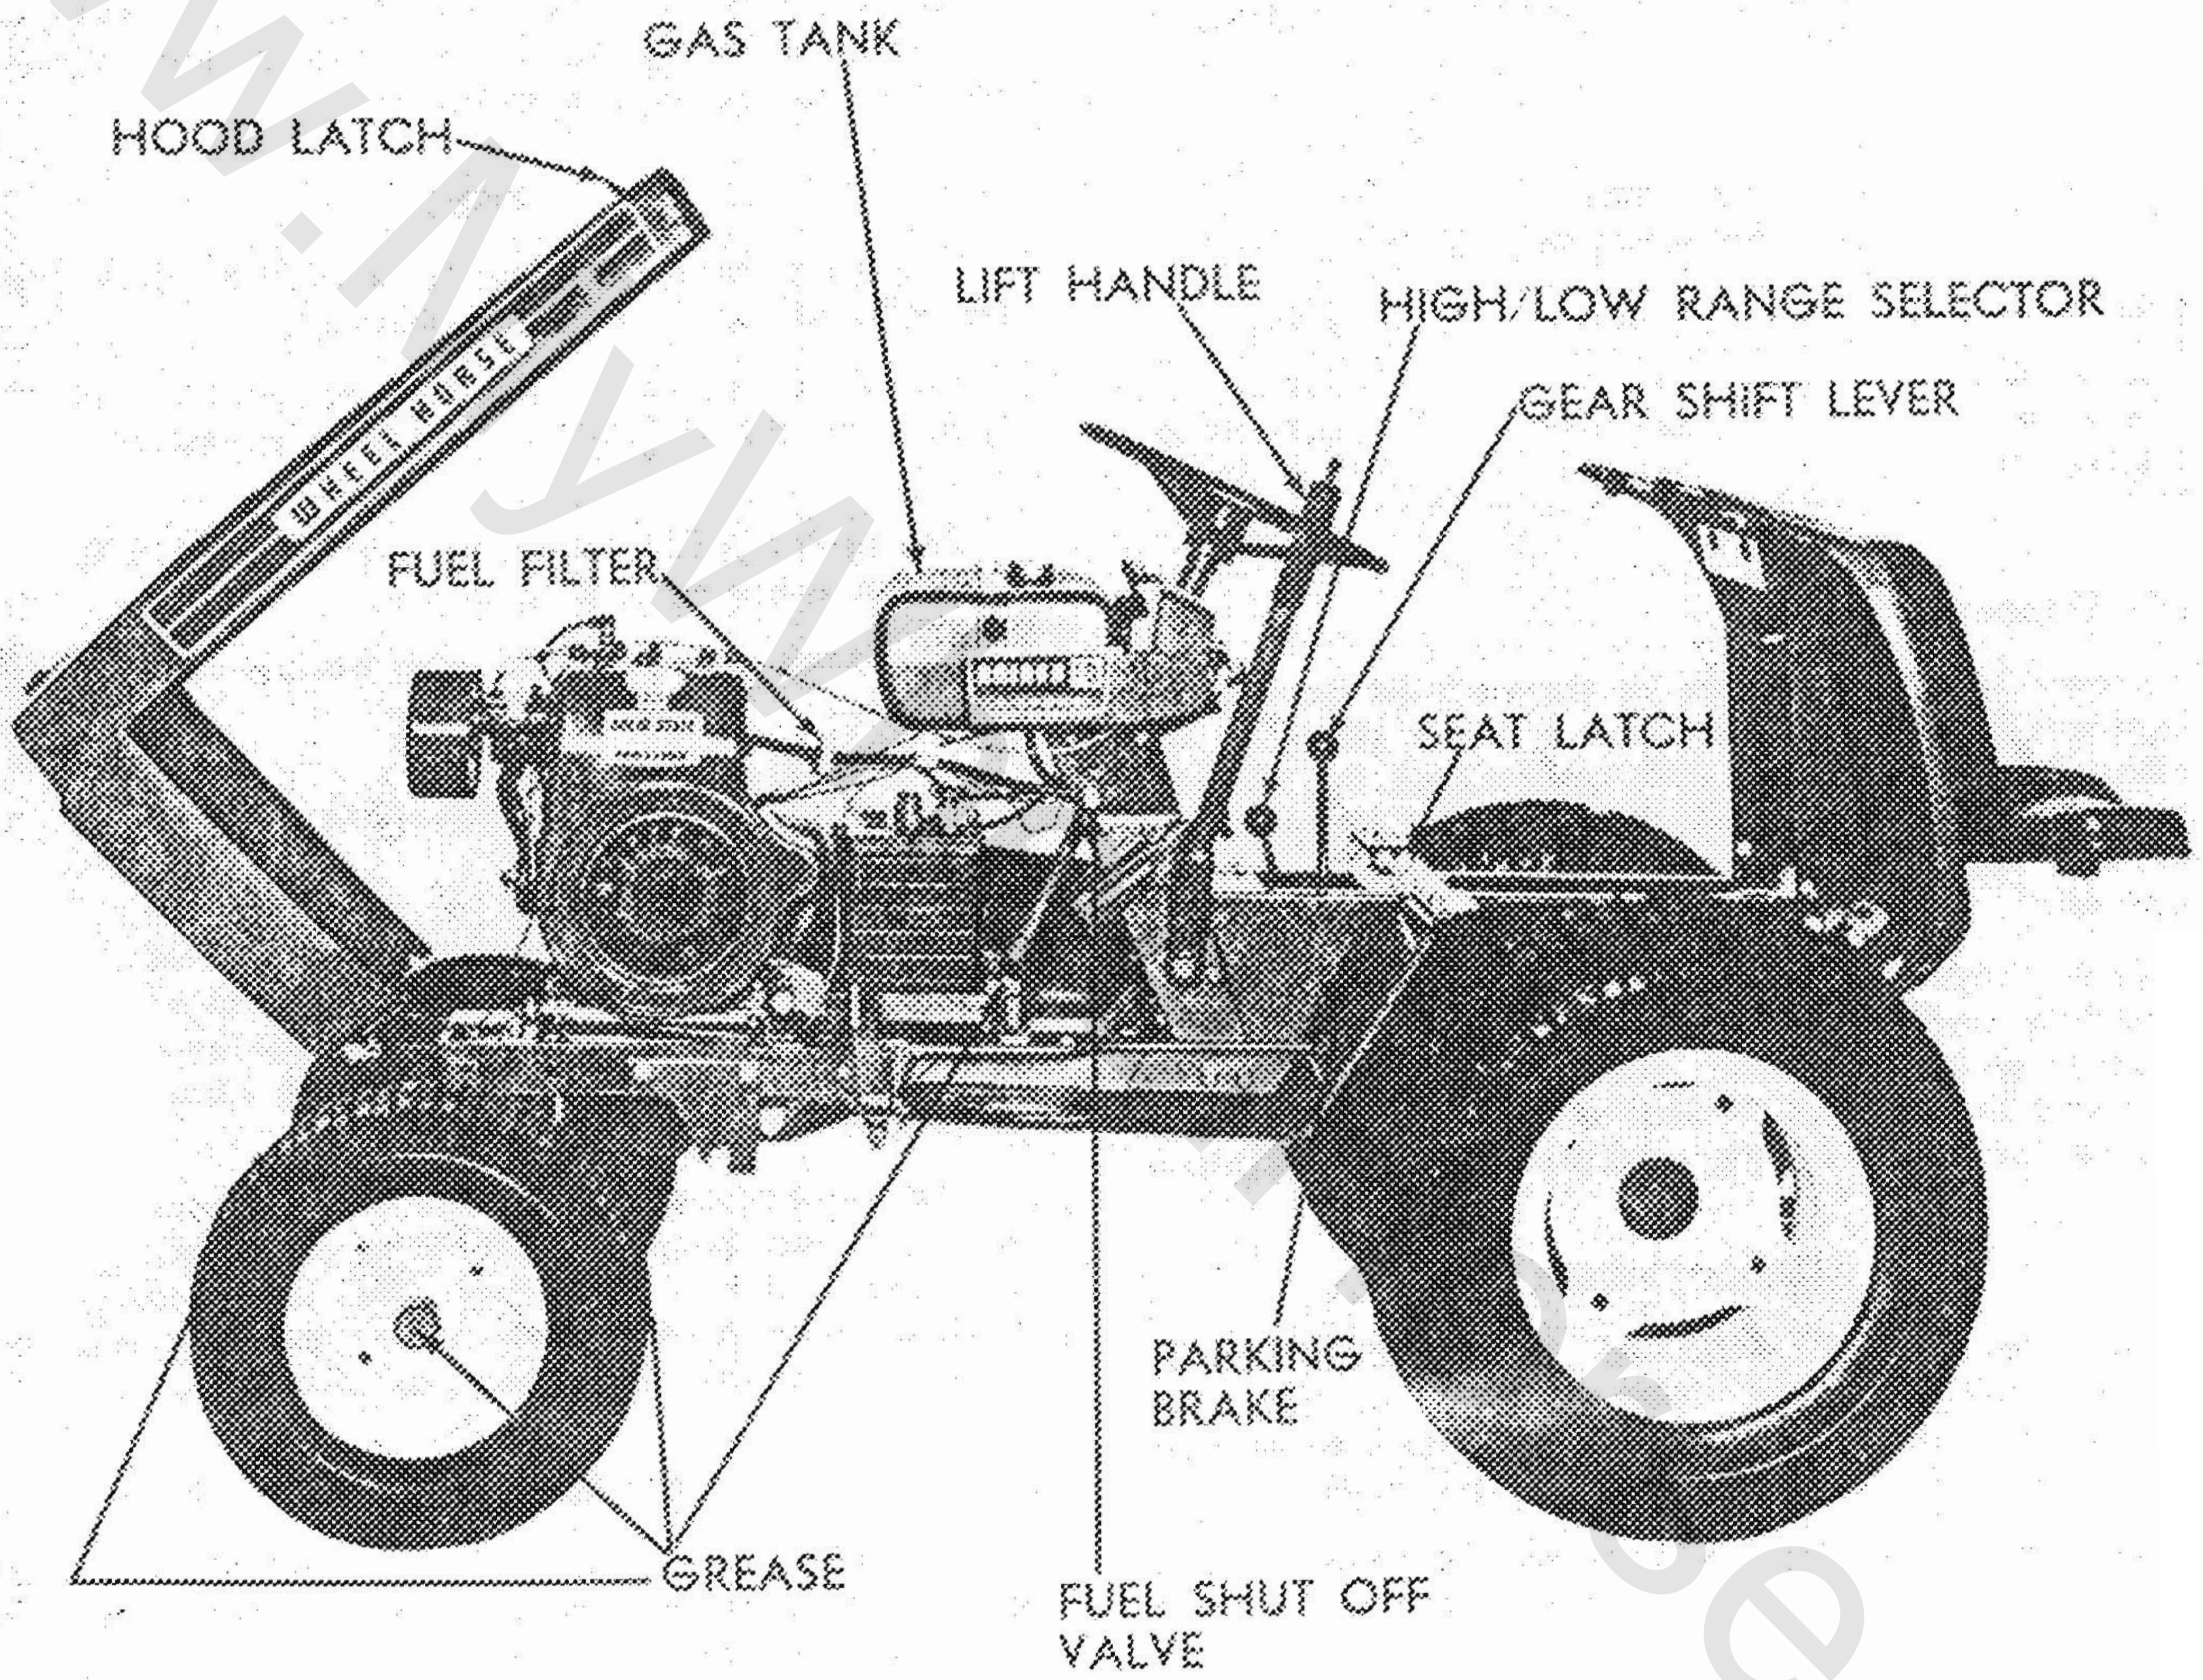

FIGURE 6
The parking brake is located on the left side of the tractor as shown in Figure 6. To set the parking brake depress the clutch-brake pedal as far as possible and push the parking brake down. To release the brake depress the clutch-brake pedal.
- Steering sector gear (See Fig. 6).
The in-line fuel filter (Fig. 6) should be cleaned after the first 25 hours operation and at 25 hour intervals thereafter. To clean the filter, remove and wash in solvent.